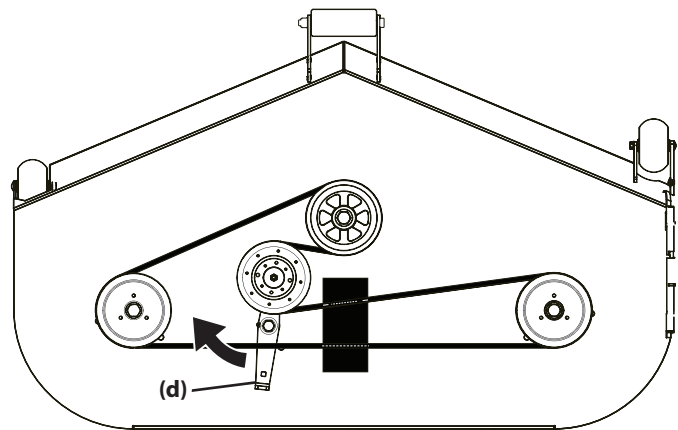

Figure 35
- Using a 1/2" (12.7 mm) drive insert the end into the 1/2" (12.7 mm) square opening in the deck idler assembly (d) and rotate the deck idler assembly clockwise. See Figure 35.
- Route the new belt as shown in Figure 35. Then reinstall the deck and PTO belt as instructed on page 25.